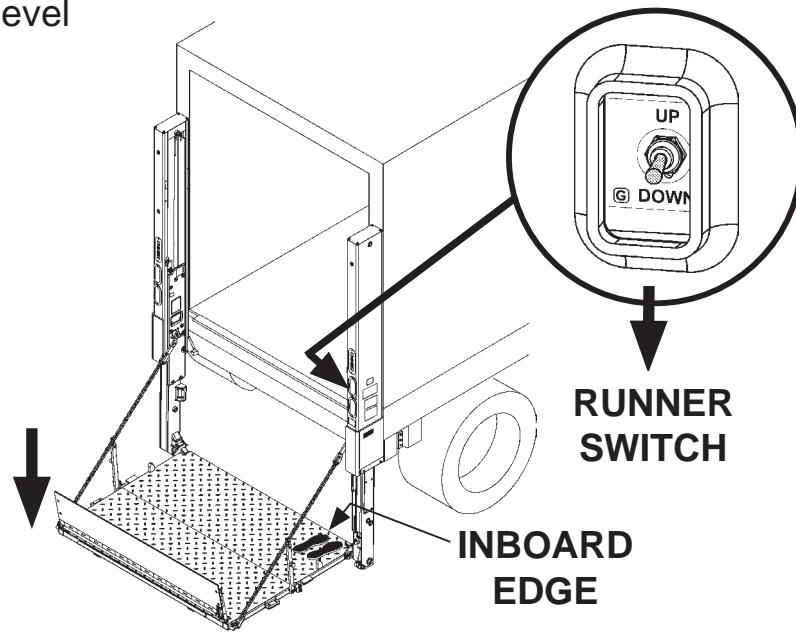

FIG. 16-1
4. Use runner switch to lower the platform to ground level (**FIG. 16-1**).